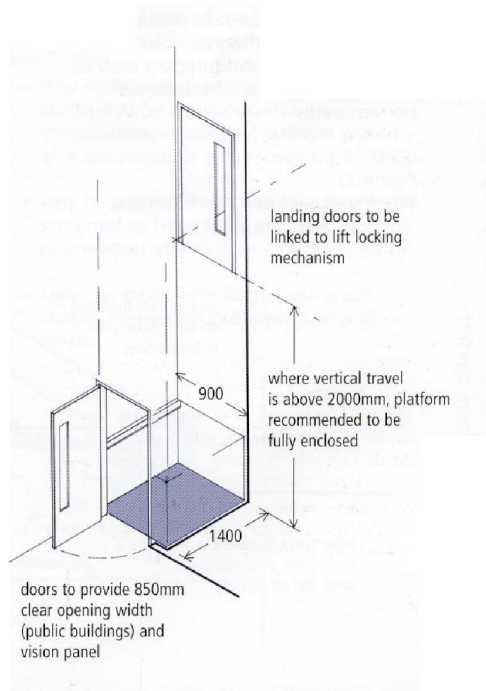

Figure 32
- Where the vertical travel distance exceeds 2m and/or the lift penetrates a floor, there should be a liftway enclosure (Figure 32).